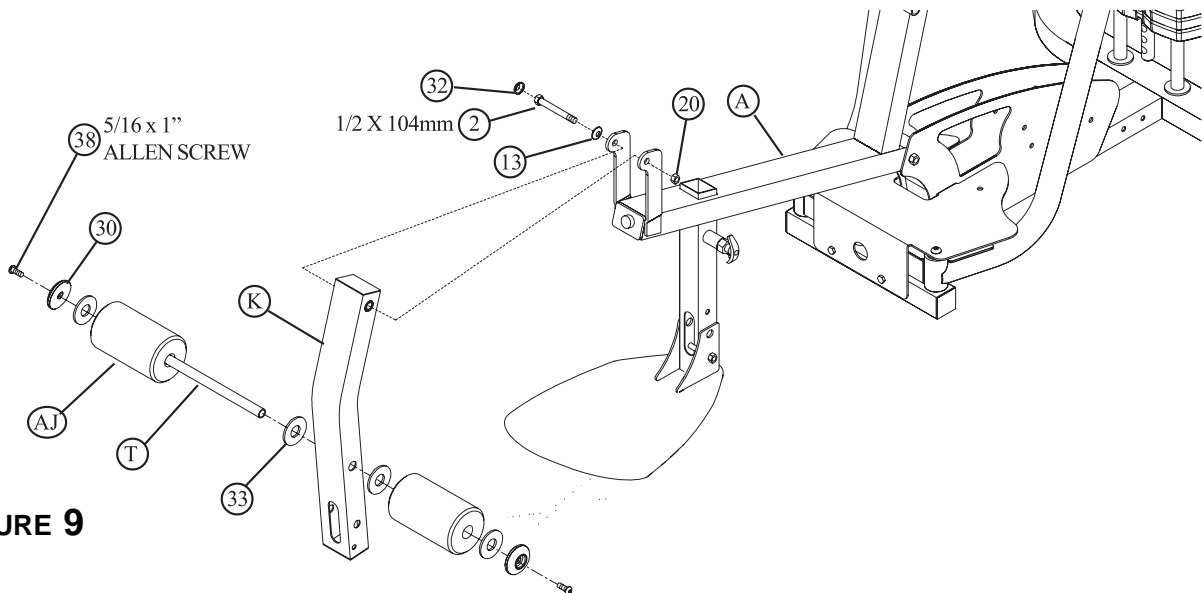

**FIGURE 8**
- SECURELY assemble the PEC PLATE (O) to the BASE (B) using two 3/8 X 2-3/4" BOLTS (9), one 3/8 X 4" BOLT (5), two 3/8" WASHERS (18) and three 3/8" SILVER LOCK NUTS (19) as shown in FIGURE 8.
- SECURELY assemble the LEFT (F) and RIGHT (G) PEC FLY ARMS to the BASE (B) using two 1/2 X 3/4" BUTTON HEAD BOLTS (15) as shown in FIGURE 8. **(Note: Tighten this connection enough to remove excess play yet allow the PEC FLY ARMS freely.)**